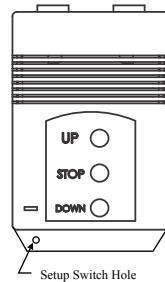

Figure 1.6: Setup Switch
- First, you must place the remote receiver into *setup status*. To do this press the reset switch by inserting a small pin (i.e. Un-bent paper clip) into the “setup switch hole” of the IR Receiver/Wall Switch (fig 1.6). You must press for 6 seconds.